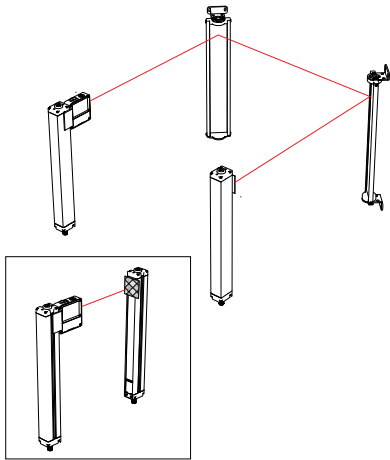

Figure 12. Optical alignment using the LAT-1-SS
**Note:** A LAT-1-SS Laser Alignment Tool is very helpful by providing a visible red dot along the optical axis. See Figure 12 on p. 37 and Banner Safety Applications Note SA104 (p/n 57477) for more information.